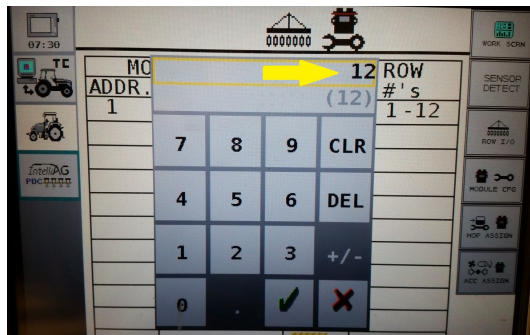

Figure 36
Step 10. Select **# of Rows** and enter the # of rows on implement. (Figure 36)